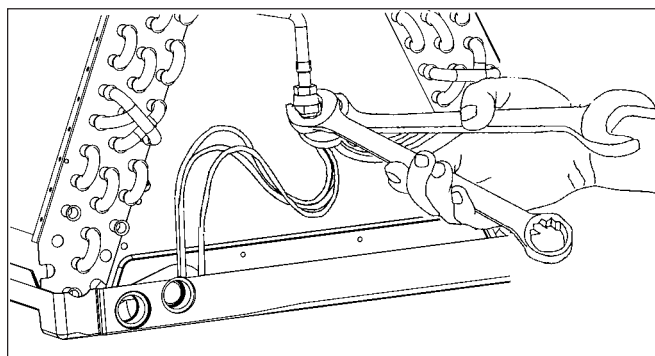

Figure 3. Wrenches on Distributor Body and Assembly Nut
1. Loosen the orifice body halves by applying two wrenches and squeezing them together as shown in Figure 3, to turn the assembly nut counter-clockwise.